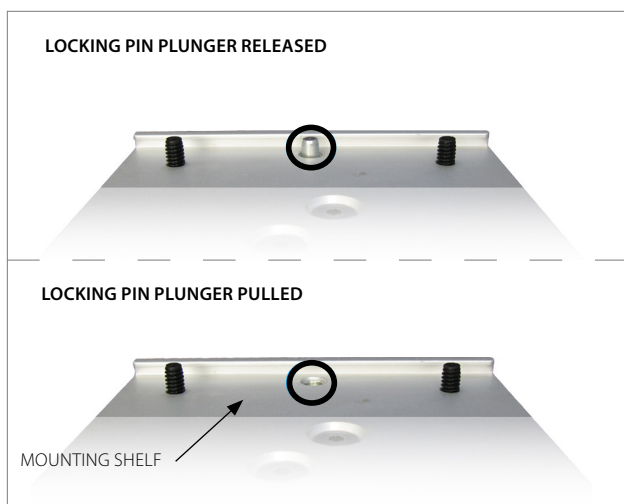

Figure 2
2. Loosen the **4x PLASTIC SCREWS** on the bottom side of the **MOUNTING SHELF**. Pull down on the **LOCKING PIN** at the bottom of the **MOUNTING SHELF** and twist it to keep it open. Slide the **PM6000 MOUNTING PLATE** laterally onto the **MOUNTING SHELF** until the **LOCKING PIN** aligns with the clearance hole at the front of the **PM6000 MOUNTING PLATE** (Figure 2).